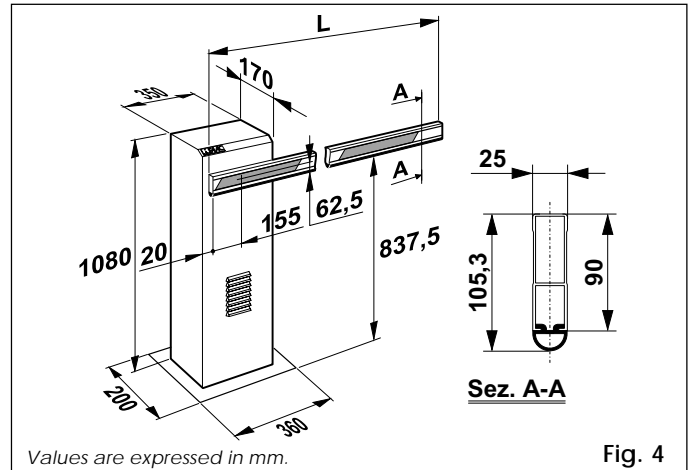

Fig. 4
Housing dimension WxHxD (mm)	see Figures 4 and 5
- 3) Install the base plate as shown in Figure 4, providing one or more conduits for electrical cables. Use a level to check that the plate is perfectly horizontal and wait for the cement to set.